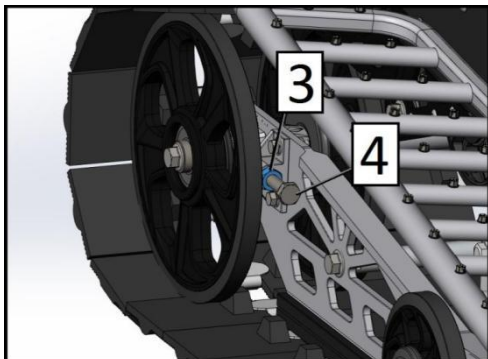

Fig. 40
- Loosen the lock nut of the adjusting bolt (posture 3, Fig. 40).
- Tighten or loosen the two adjusting bolts (Pose 4, Fig. 40) to the same angle (speed) to increase or decrease the track tension.